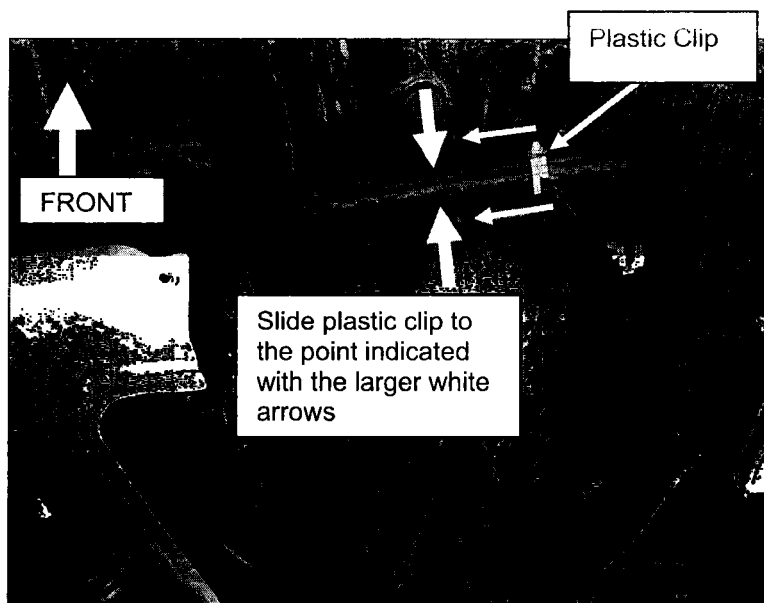

Figure 3
NOTE: The plastic clip is attached to the three black metal tubes located at the front driver's (LH) side of the fuel tank (see Figure 3).
- b. Slide the plastic clip down the metal tubes to the point shown in Figure 3.